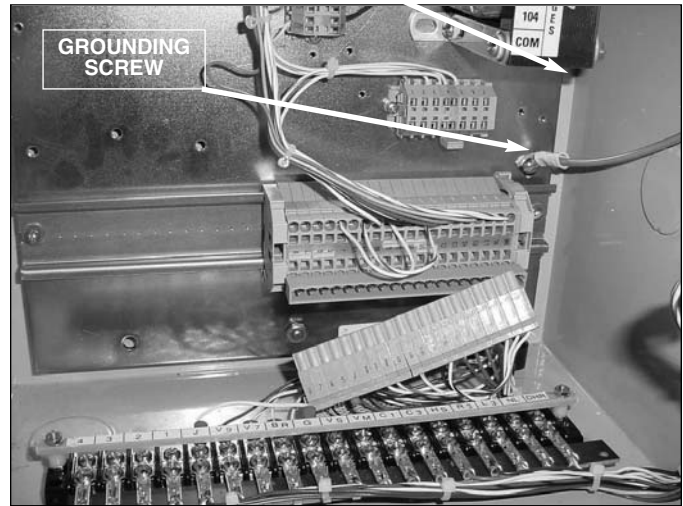

Figure 9.
18. Place the control front panel's green ground wire, if using a CL4 or CL5 series control, under the ground screw above the right hand side of TB2. Use a standard screwdriver and tighten the screw (See Figure 9).